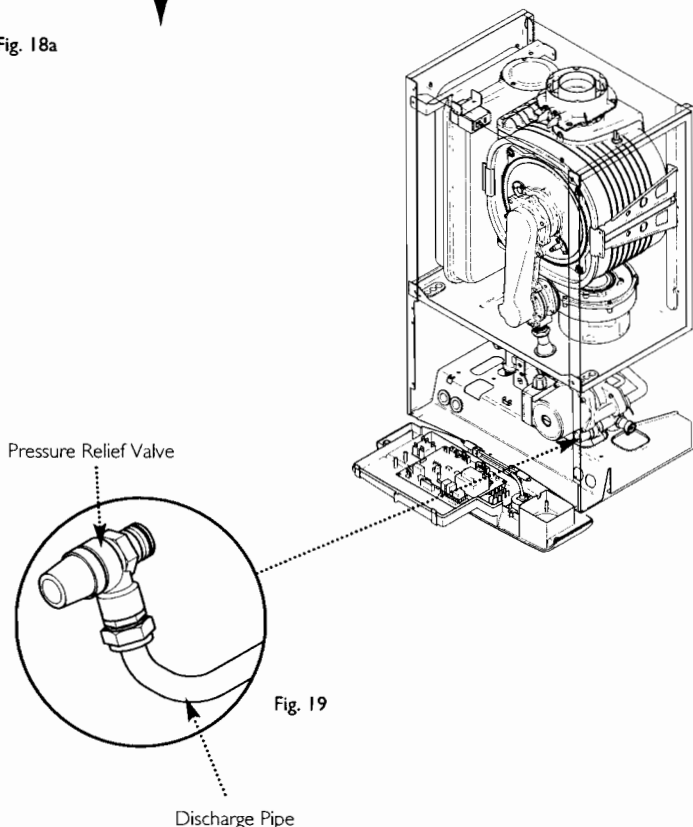

Fig. 19
8.4 Fitting the Pressure Relief Discharge Pipe (Fig. 19)